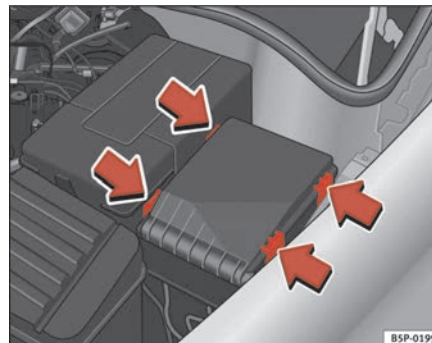

Fig. 176 Fuse box cover in engine compartment
- Prise off the fuse cover in the engine compartment by pressing the tabs towards the centre of the cover ⇒ fig. 176.